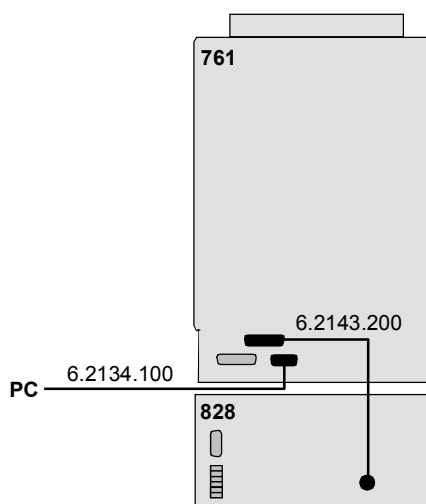

Figure 7: Connecting the 828 IC Dual Suppressor to the 761 Compact IC
The electrical connections of the system consisting of the 761 Compact IC and the 828 IC Dual Suppressor are made according to Figure 7:
- The remote connection from the suppressor to the 762 IC Interface (6.2128.180 Cable, Figure 5) or to the 761 Compact IC (6.2143.200 Cable, Figure 7) are not necessary for manual operation.